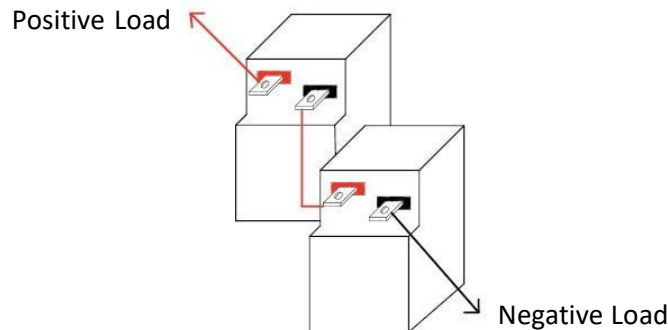

Figure 4: Two GC2|GC2H Batteries Connected in Series to create a 24V 100Ah Battery Bank
When batteries are connected in series, current capacities remain the same, but the system voltage is additive. For example, two BBGC2 | BBGC2H batteries connected in series form a 24V 100Ah bank (shown in Fig. 4) and should be charged using a bulk and absorption voltage of 28.8V, and a float voltage of 27.2V.
7. Repeat steps 3-6 for additional batteries, but **DO NOT** exceed 48V. An example of a correct series connection can be found below in Fig. 4.